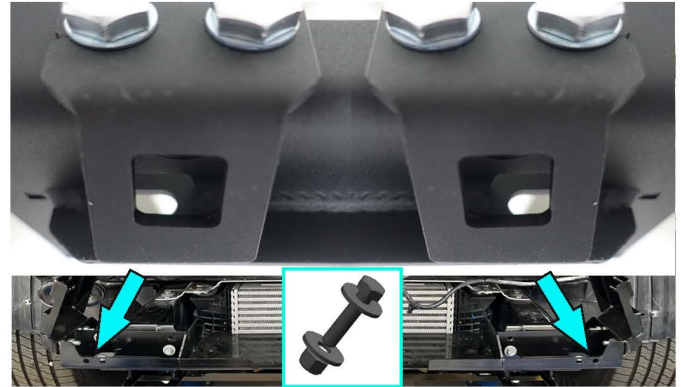

Fig.21
21. Install brackets for bash plate (item 30, 31) using bolts M10x30, nuts M10, washers 10 (item F, Q, K) (fig.21).